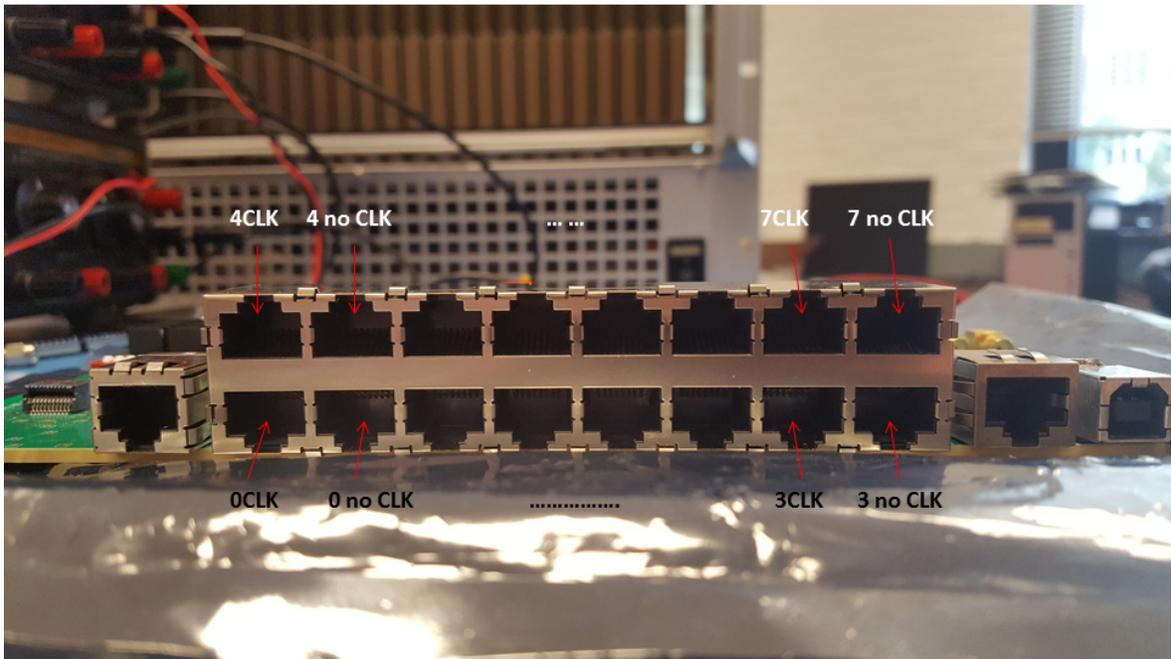

Figure 12: A guide to the 8 channels on the ACC.
6. Connect an ethernet cable from any of the CLK ports on the ACC to the RJ45 port on the ACDC closest to the LEDs. Look at figure 12 for a guide of the ports on the ACC.